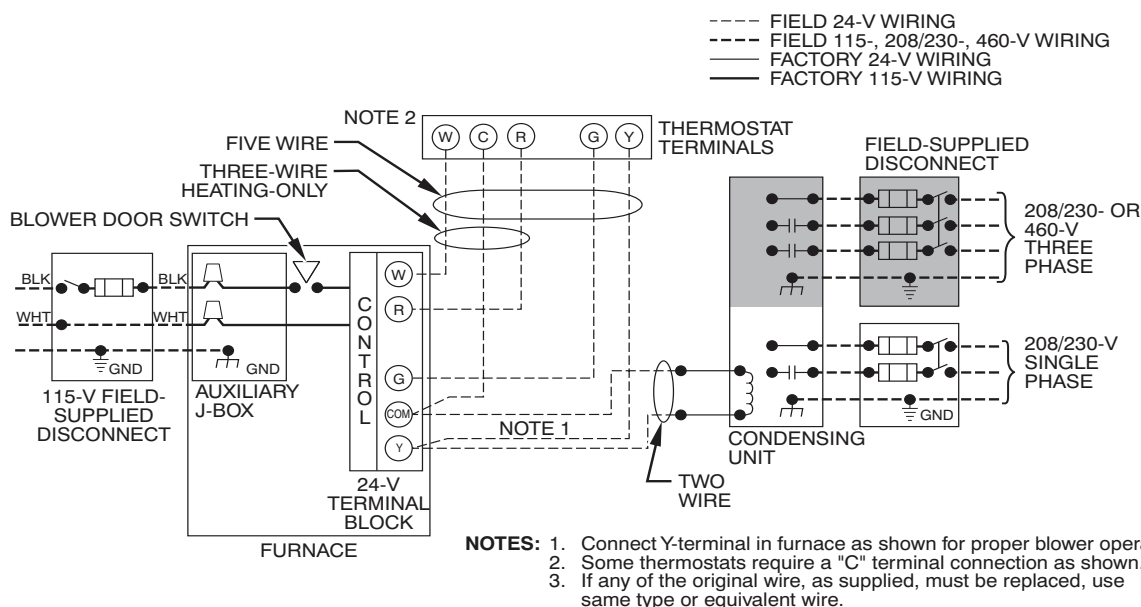

Fig. 24 – Heating and Cooling Application Wiring Diagram with 1-Stage Thermostat
See Fig. 24 for field wiring diagram showing typical field 115-v wiring. Check all factory and field electrical connections for tightness.
13. Complete electrical box wiring and installation. Connect line voltage leads (see Fig. 24). Use best practices (NEC in U.S. for wire bushings, strain relief, etc.)
5. Connect line voltage leads (see Fig. 24).